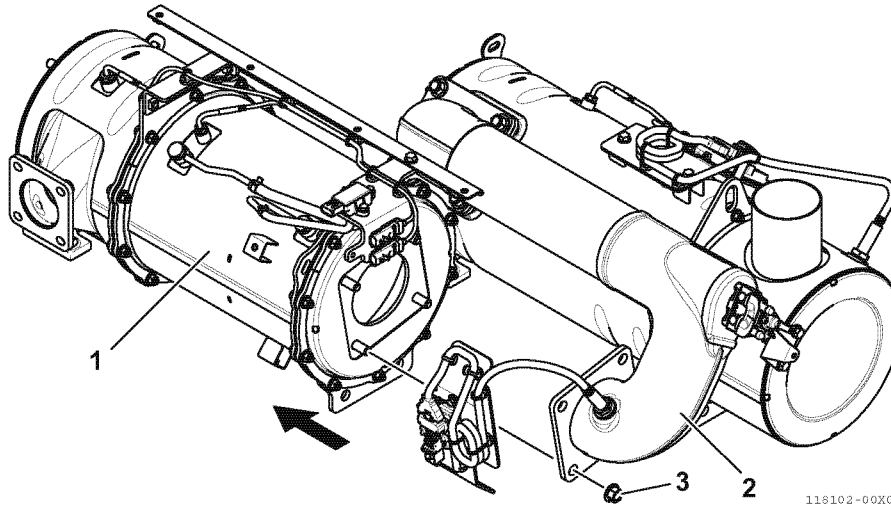

Fig.25-19
7. Loosen the nuts (4 pcs.) (3, Fig.25-19) that mount the DPF (1, Fig.25-19) and SCR pipe (2, Fig.25-19), and move the DPF in the direction of the arrow to remove it.